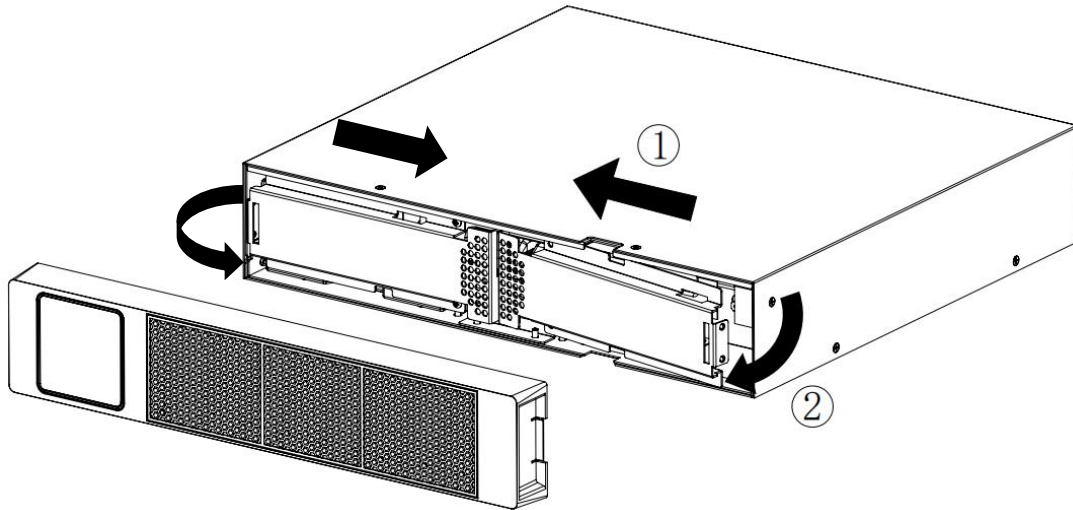

Figure 14: Remove the Faceplate
9. Loosen the outer screws on the battery covers, move the battery cover to the center, then pull the outside out (see Figure 14).